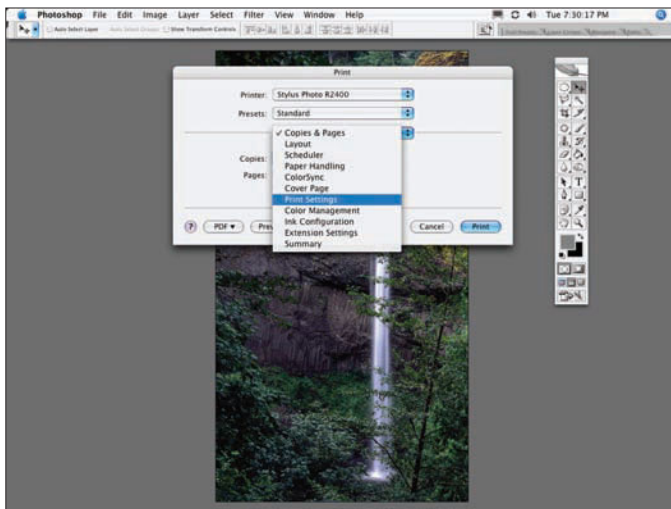

Figure 4.23
6. Click Print, which will take you to the dialog box shown in Figure 4.23. At the top of this dialog box, you'll see the Printer drop-down menu, and just below it, the Presets drop-down menu.